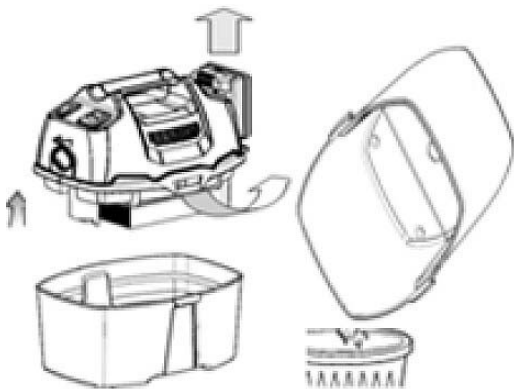

Fig. 15: Opening the dirt tank
Step 2: Remove the upper part of the container after opening the side lock (Fig.15).
Step 3: Empty the contents of the dirt container properly (Fig.15).